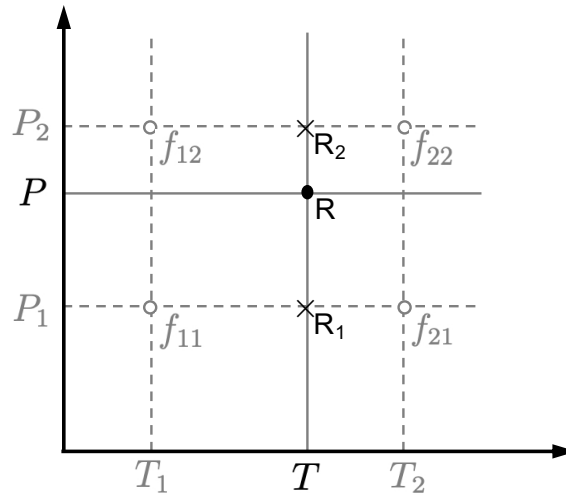

Figure 5. Grid used to apply bilinear interpolation.
In utilizing a P - h diagram to obtain the thermodynamic properties of a substance, one typically needs to perform bilinear interpolation. For example, consider the case where we want to determine the enthalpy (h), given the temperature (T) and pressure (P) defining a particular state. Let f denote the functional dependence of h on T and P , i.e., $h = f(T, P)$. We assume that we only know f at discrete values of T and P , as would be the case for thermodynamic property tables. Therefore, in order to determine f at any general (T, P) , we need to locate the four grid points that bracket (T, P) , denoted as point R in Figure 5, and apply bilinear interpolation using the steps below.